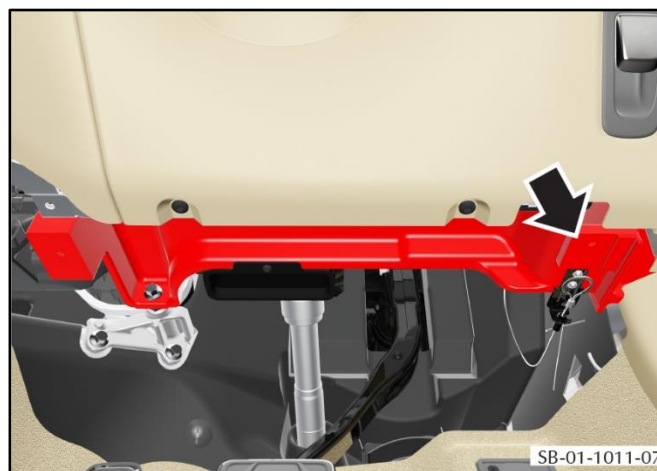

Figure 3
2. Identify the position where the outboard end of the driver knee airbag is attached to the cross-car beam assembly (refer to Figure 3).